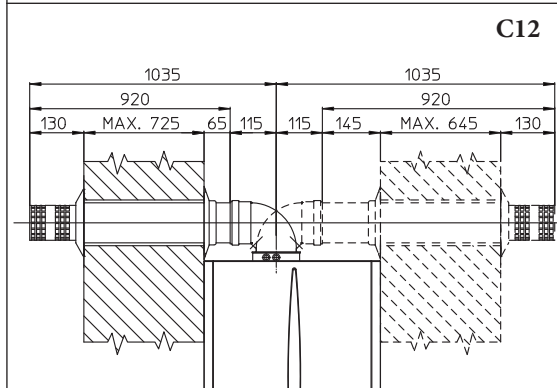

Fig. 1-17
• Application with side outlet (Fig. 1-17); Using the horizontal intake-exhaust kit, without the special extensions, enables routing through a wall thickness of 725 mm with the left side outlet and 645 with the right side outlet.